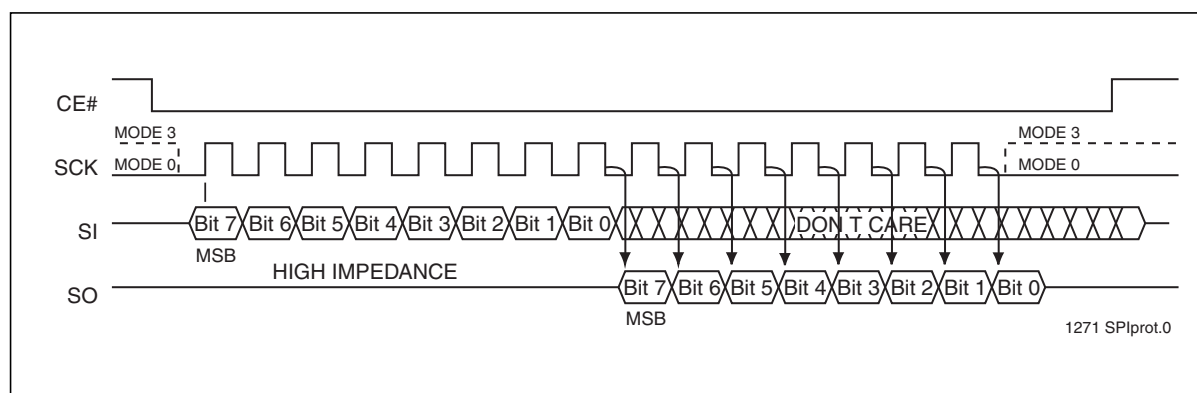

Figure 3: SPI Protocol
The SST25VF016B supports both Mode 0 (0,0) and Mode 3 (1,1) of SPI bus operations. The difference between the two modes, as shown in Figure 3, is the state of the SCK signal when the bus master is in Stand-by mode and no data is being transferred. The SCK signal is low for Mode 0 and SCK signal is high for Mode 3. For both modes, the Serial Data In (SI) is sampled at the rising edge of the SCK clock signal and the Serial Data Output (SO) is driven after the falling edge of the SCK clock signal.